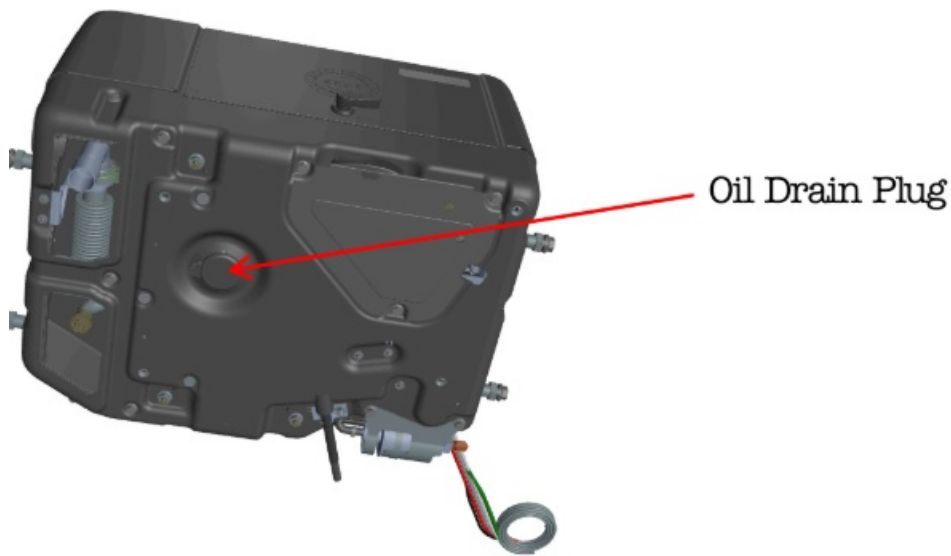

Fig. 14
3. Remove the oil drain hole cover, (Fig. 14) from the bottom of the generator, place a proper container under the oil drain hole and unscrew the drain plug. Wear leather gloves and use a long extension bar to prevent contact with hot engine oil.